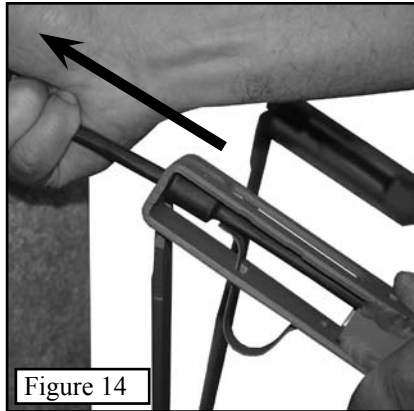

Figure 14
**Step 3.** Pull the cable towards the back of the tree and “seat” the cable stop against the back of the bracket, as shown in *Figure 14*. The QuickDraw cable spring will “lock” into place behind one of the cable stops.